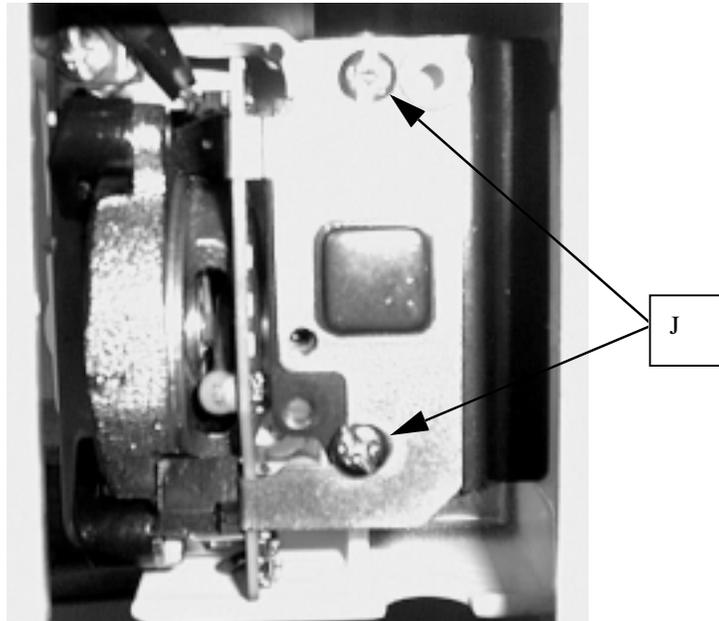

FIGURE 2-5
6. Remove two setscrews (J) shown in Fig.2-5, and remove the gearbox rear cap and bobbin thread sensor.